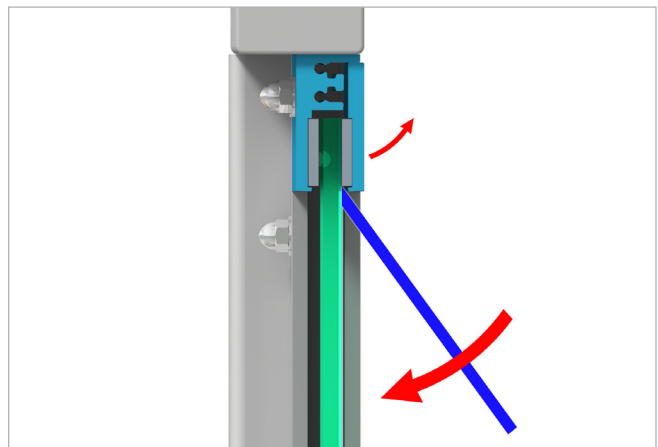

Figure 3 – Plastic pry bar position and motion.
2. Insert the plastic pry bar for automotive glass installation between the glass and clamp, as shown by the **blue bar** in **Figure 3**.
Pry the glass clamp away from the glass using the motion shown in **Figure 3**. The intention of this step is to break the bond of the three (3) clamps from the glass in order to facilitate easy glass removal.